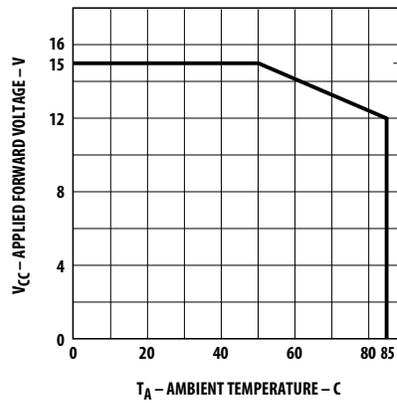

Figure 4. Maximum allowed applied forward voltage vs. ambient temperature  $R\theta_{JA} = 175^\circ\text{C/W}$ . 12 volt devices.
3. Derate from  $T_A = 50^\circ\text{C}$  at  $0.086 \text{ V}/^\circ\text{C}$ , see Figure 4.